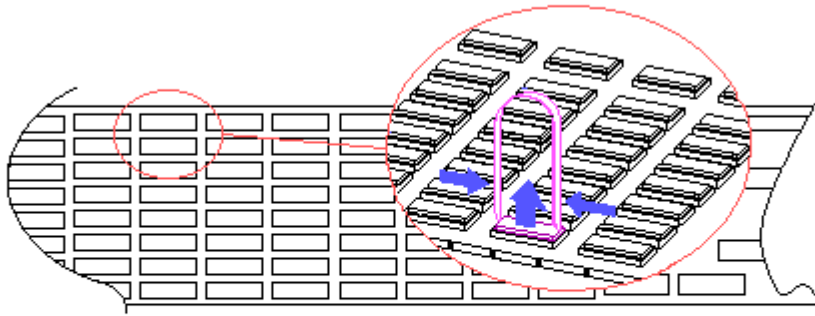

Figure 7.10-6. Removing a Defective Memory Chip
- Using the special IC removal tool, remove the defective memory or ROM chip(s) (Figure 7.10-6).